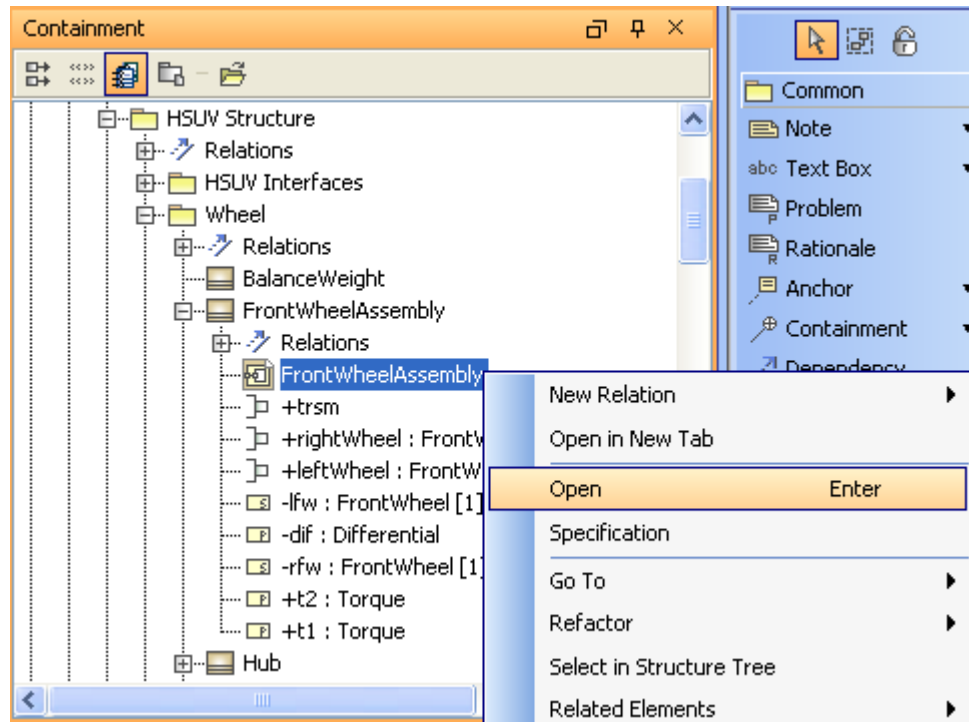
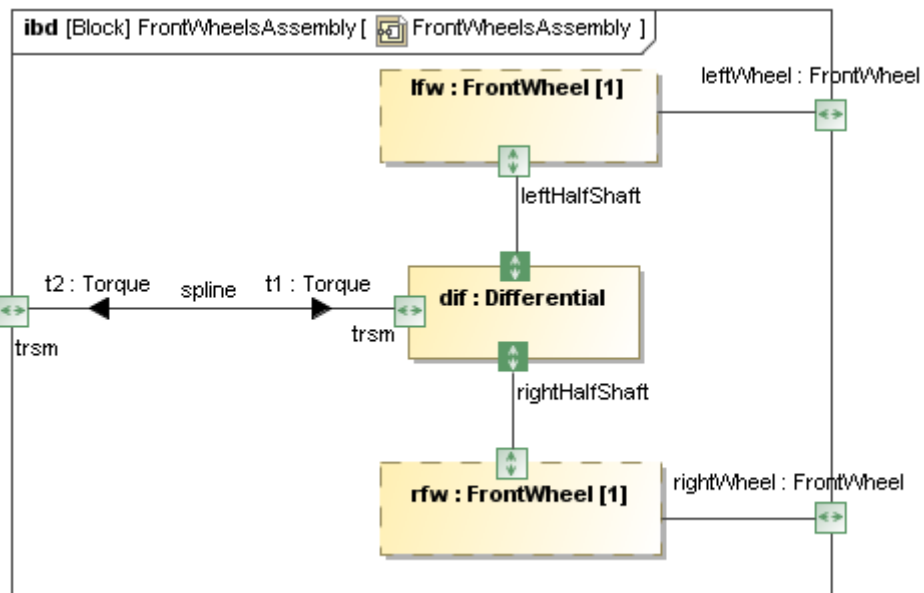

Figure 102 -- The Created IBD of Extracted Classifier
Figure 103 -- Displayed Extracted Structure
- Open the created IBD to display the structure which was recently extracted (Figure 102). The structure view will be ready (Figure 103).